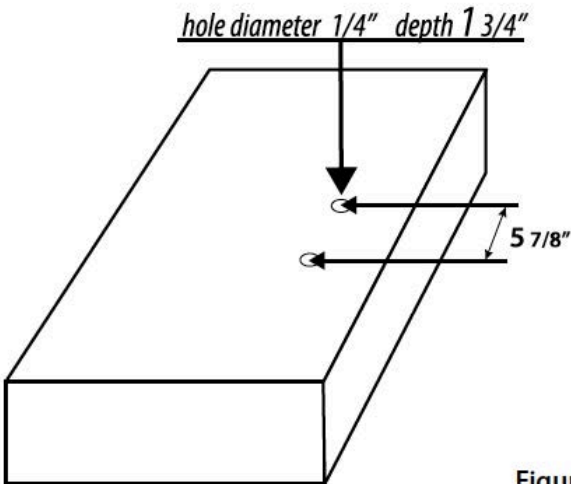

Figure 2
STEP 2: Use pencil to mark two holes to be drilled into deck to secure alarm, aligning marks with holes in left and right of the alarm body head. Refer to **Figure 2** for appropriate spacing.
STEP 3: Drill holes into hole markings with a 1/4" masonry drill. Refer to **Figure 2** to drill holes 1.75" deep. To achieve the right depth, measure 1.75" inches from the end of the drill bit, and mark point with masking tape. Stop drilling when deck is level with tape. Remove dust and debris from hole. Remove nuts and washers from mounting anchors, and insert mounting anchors into previously drilled holes. To mount into wood deck or metal rail, use screws provided.